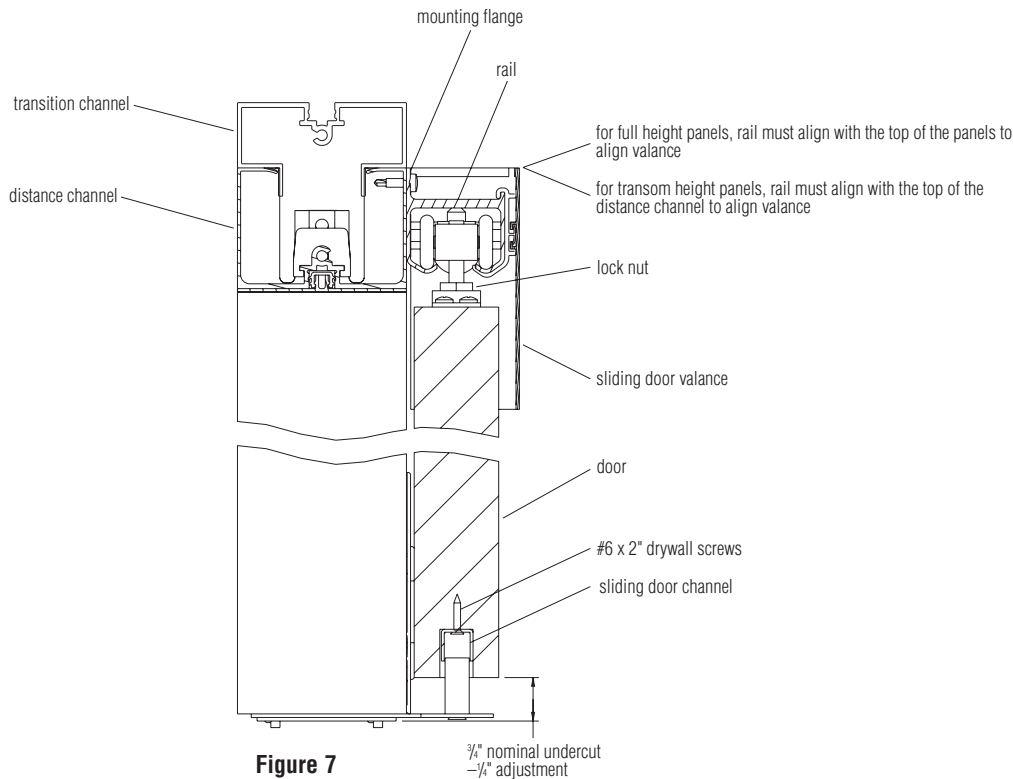

Figure 7
9. Secure the rail by installing #10 x 3/4" long PPH self-drilling screws through the clearance holes in the rail and into the frame members (Figure 7).
10. The door can be adjusted  $\pm 1/4"$  (Figure 7).